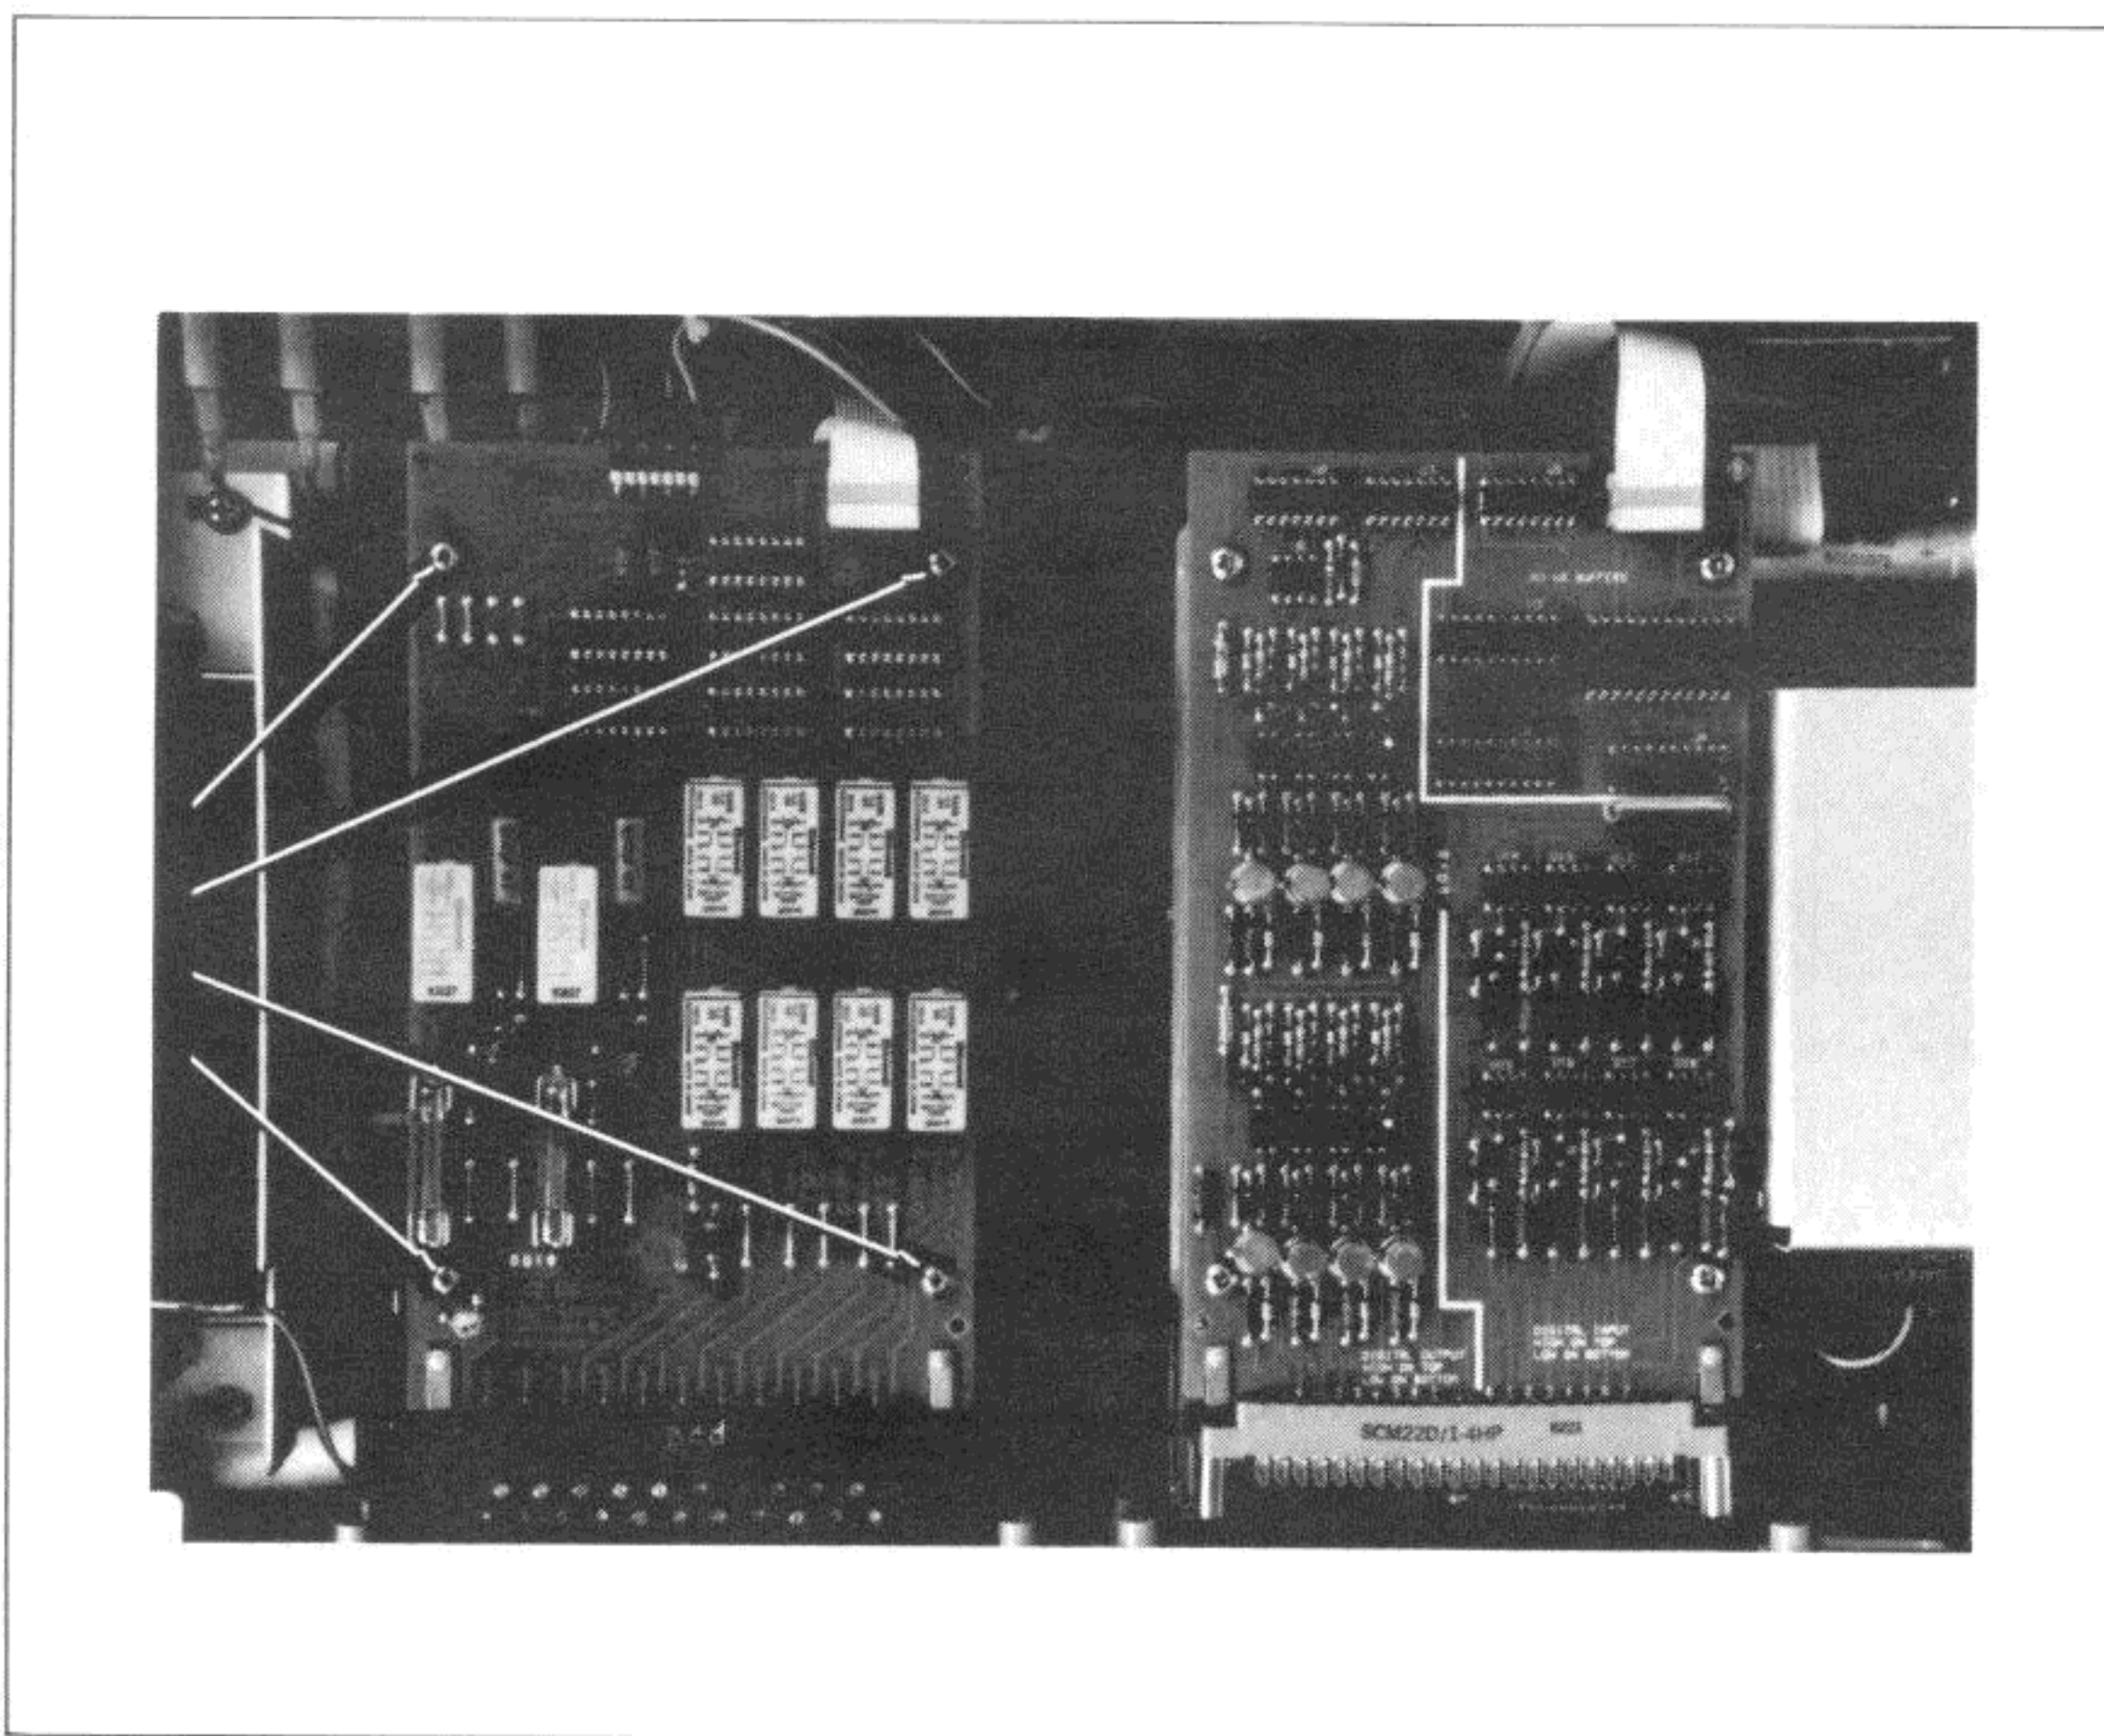

Figure 3-2-5. Removing Hex Screw Standoffs
b. Using a 7/32" wrench, remove the four hex screws standoffs as shown in Figure 3-2-5.